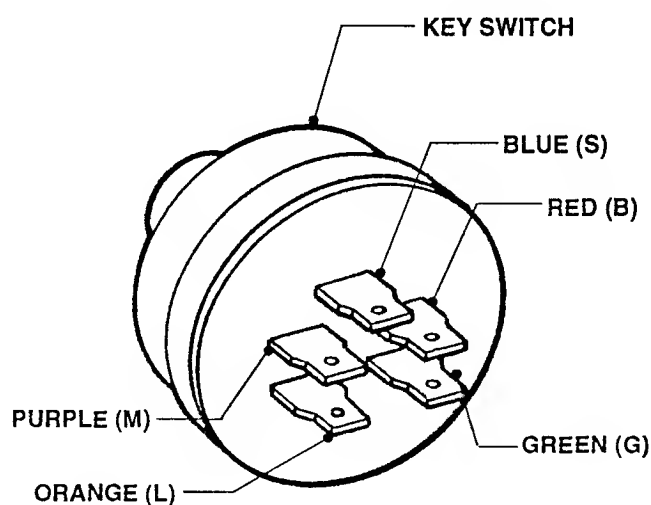

FIGURE 3.6
1. Disconnect Wires from the Switch Terminals. See Figure 3.6.